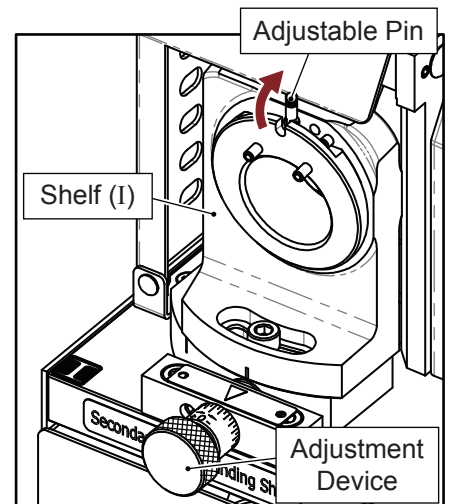

Fig. 9-1
1. Secondary Relief Grinding Shelf (I) (Fig. 9-1)
- ① Move the adjustable pin on Shelf (I) from the bottom to top.
- ② Adjust the Cutting face adjustment device to “0”, after finishing the whole sharpening procedure, then adjust this device according to your needs. (See chapter “XIV. The use of the Cutting Face Adjustment Device”)